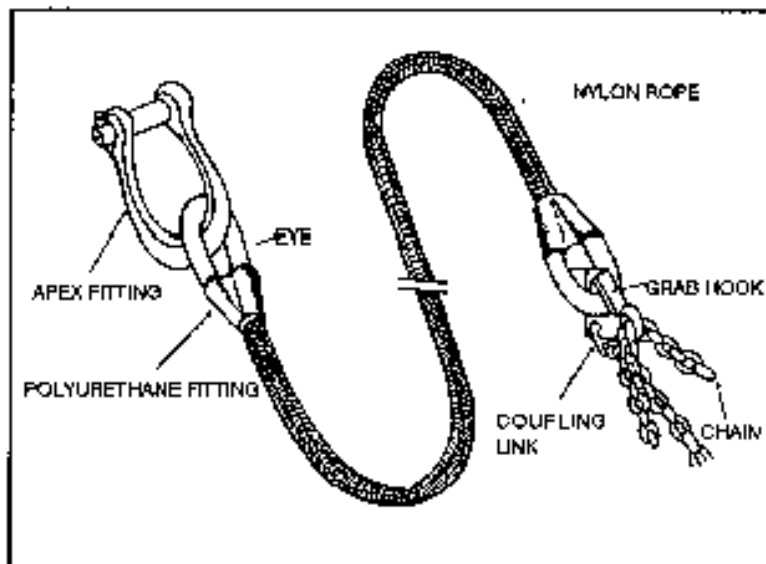
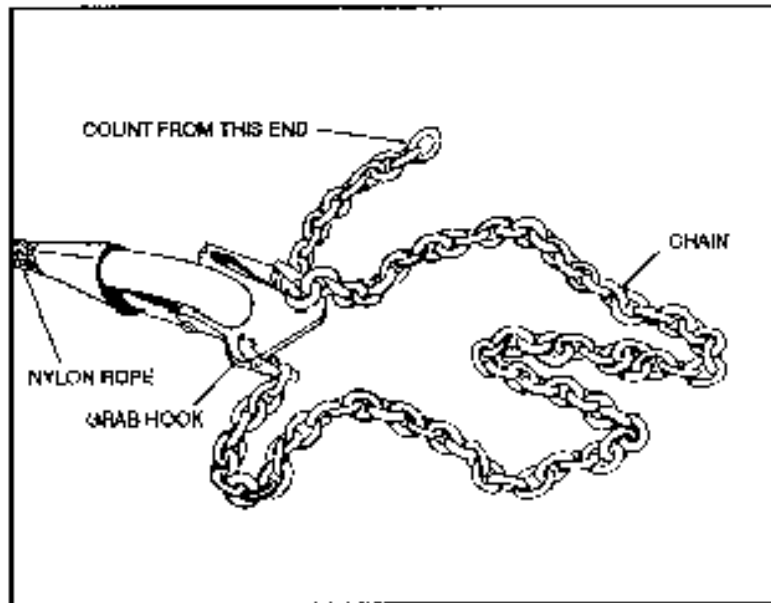

Figure 5-4. 10,000-pound capacity sling set.
Figure 5-5. Coupling link.
f. **Large Capacity Sling Sets.** The new 10,000-pound (Figure 5-4) and 25,000-pound capacity sling sets appear similar. However, all components of the sets are marked so take care not to mix components of the two sets. See Table 5-1 for identifying characteristics.
(1) The nylon rope assembly for each set has an interwoven eye at each end. This eye is covered with polyurethane potting to protect the leg from abrasion and ultraviolet radiation (Figure 5-4). Each rope is double braided and is connected to a grab hook assembly (Figures 5-5, 5-6, and 5-7). The grab hooks for the two sets look alike, but they are not interchangeable because they have different ratings.
(2) Refer to Chapter 6, FM 55-450-3 to learn how to inspect the new rope sling sets and to Appendix D, FM 55-450-3 for sling conversion tables.